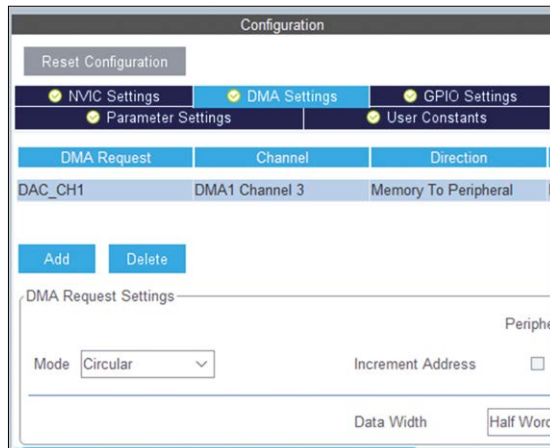

Figure 9.14: DMA settings.
- Click **DAC\_CH1** and set the **Mode** to **Circular**, **Data Width** to **Half Word** (Figure 9.14).